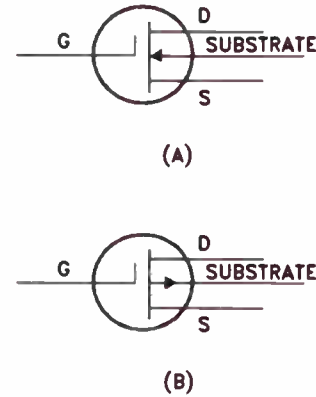
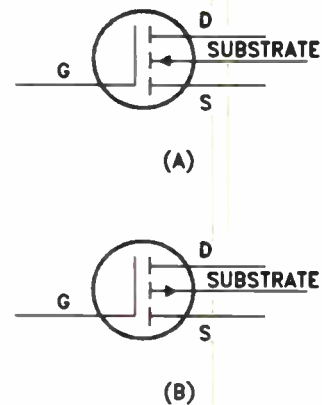

Figure 18. Insulated-gate, field-effect transistors. (A) Schematic symbol for an n-channel unit, and (B) the symbol for a p-channel unit.
Figure 20. The schematic symbol for (A) an n-channel enhancement-type IGFET and (B) a p-channel unit.
Both n-channel and p-channel MOSFETs are manufactured. The schematic symbols used to represent the two types are shown in Fig.18. Figure 18(A) shows the symbol for an n-channel type, and Fig.18(B) shows the symbol for a p-channel type. They work essentially the same way as JFETs, except that there is no current flow at all from the channel to the gate or from the gate to the channel. In the JFET, there may
Figure 20 shows the schematic symbols for the enhancement-type IGFETs. The one shown in Fig.20(A) is for an n-channel and the one shown in Fig.20(B) for a p-channel. Compare these symbols with those shown in Fig.18. Notice that in Fig.18 there is a direct line between the source and drain in each case. This indicates that the channel exists, or in other words, that these are depletion-type IGFETs. In Fig.20, a direct line between the source and drain is not shown because the channel does not exist unless the correct voltage is applied to the gate. Thus, these are enhancement-type IGFETs.